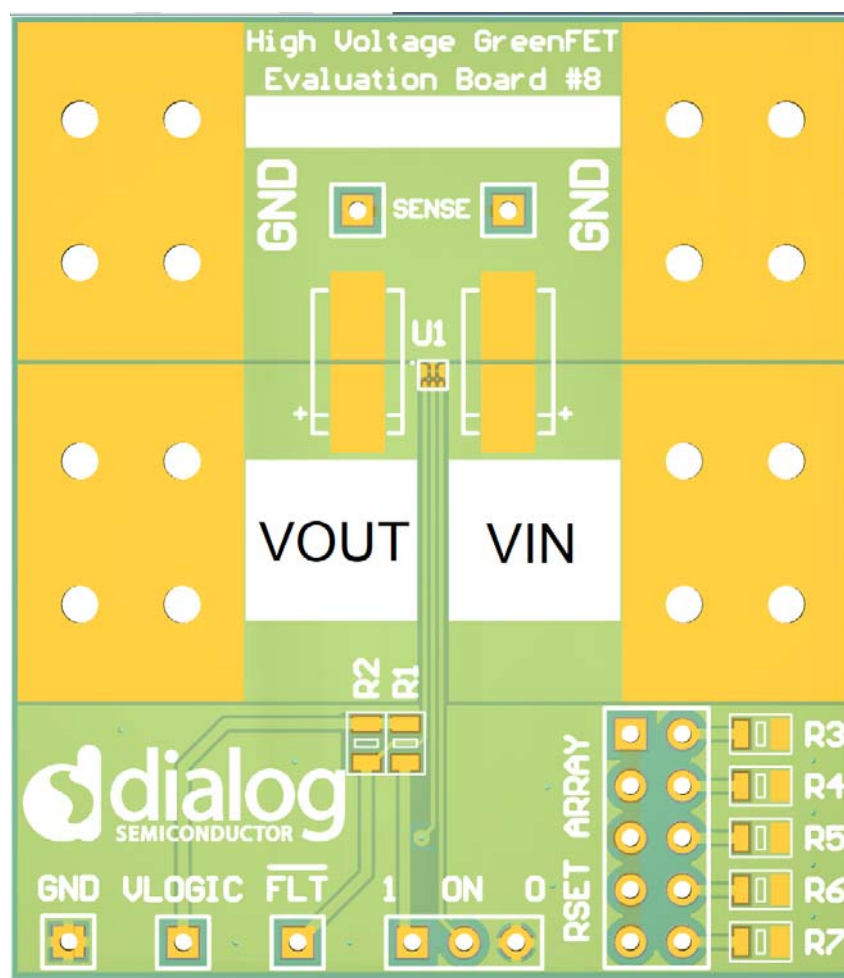

Figure 13. SLG59H1343C Evaluation Board
1. Since the IN and OUT pins dissipate most of the heat generated during high-load current operation, it is highly recommended to make power traces as short, direct, and wide as possible. A good practice is to make power traces with an absolute minimum widths of 15 mils (0.381 mm) per Ampere. A representative layout, shown in Figure 13 illustrates proper techniques for heat to transfer as efficiently as possible out of the device;
A High Voltage GreenFET Evaluation Board for SLG59H1343C is designed according to the statements above and is illustrated on Figure 13. Please note that evaluation board has Sense pads. They cannot carry high currents and dedicated only for $R_{DS(ON)}$ evaluation